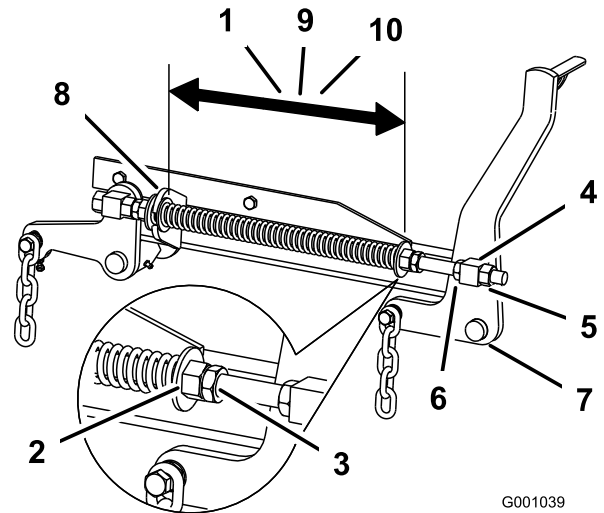

Figure 102
2. Check the distance between the 2 large washers, it needs to be 28.2 cm (11-1/8 inches) for 52-inch mower decks, 26.7 cm (10-1/2 inches) for 60-inch mower decks, or 29.2 cm (11-1/2 inches) for 72-inch mower decks (Figure 102).
3. Adjust this distance, by loosening the spring-jam nut and turning the nut in front of each spring (Figure 102).
4. Lock the nut into position by tightening the spring-jam nut (Figure 102).